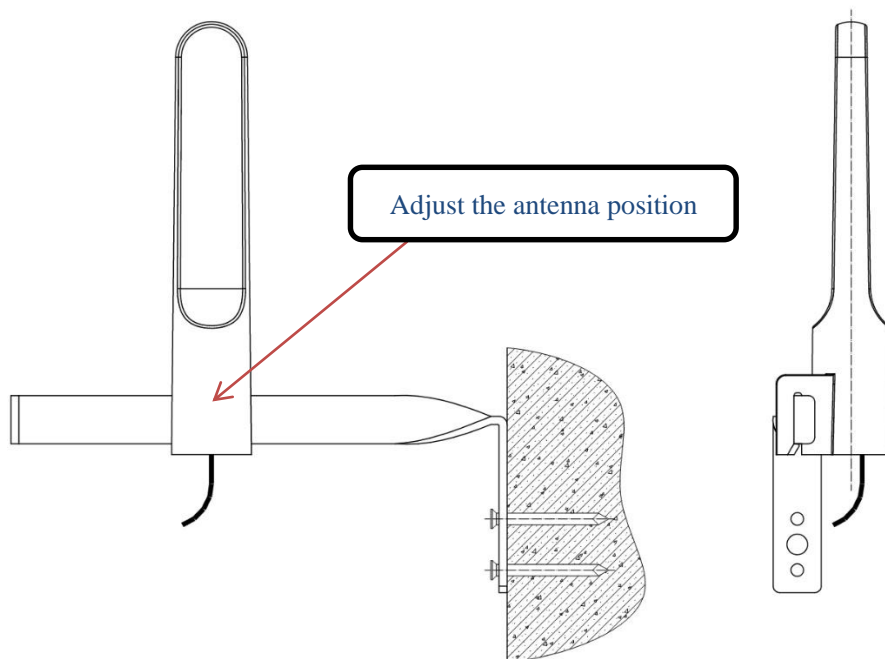

Figure 5-4 Antenna Installation
5.4.2. Place the external antenna on the installing position and adjust the antenna position, then tighten the screws on the bracket to finish this step, as shown in Figure 5-4.